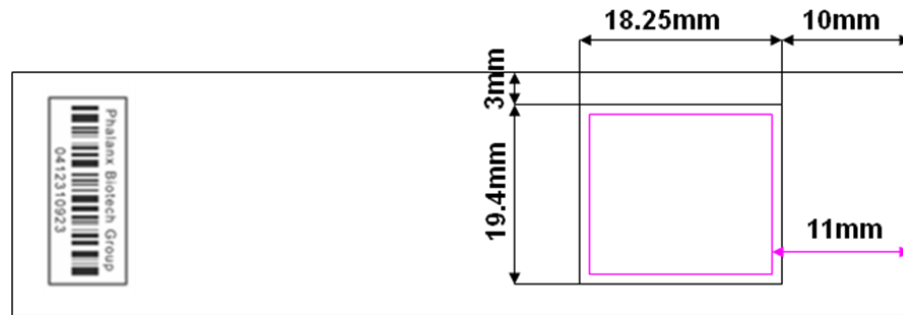

Figure 1: Human miRNA OneArray[®] Microarray Glass Slide with “Probe Printed Region Guide” Plastic Underlay. (One array per slide)
- 5) Place the Human miRNA OneArray® slide, bar code up, atop the “Probe Printed Region Guide” (included, see Figure 1).